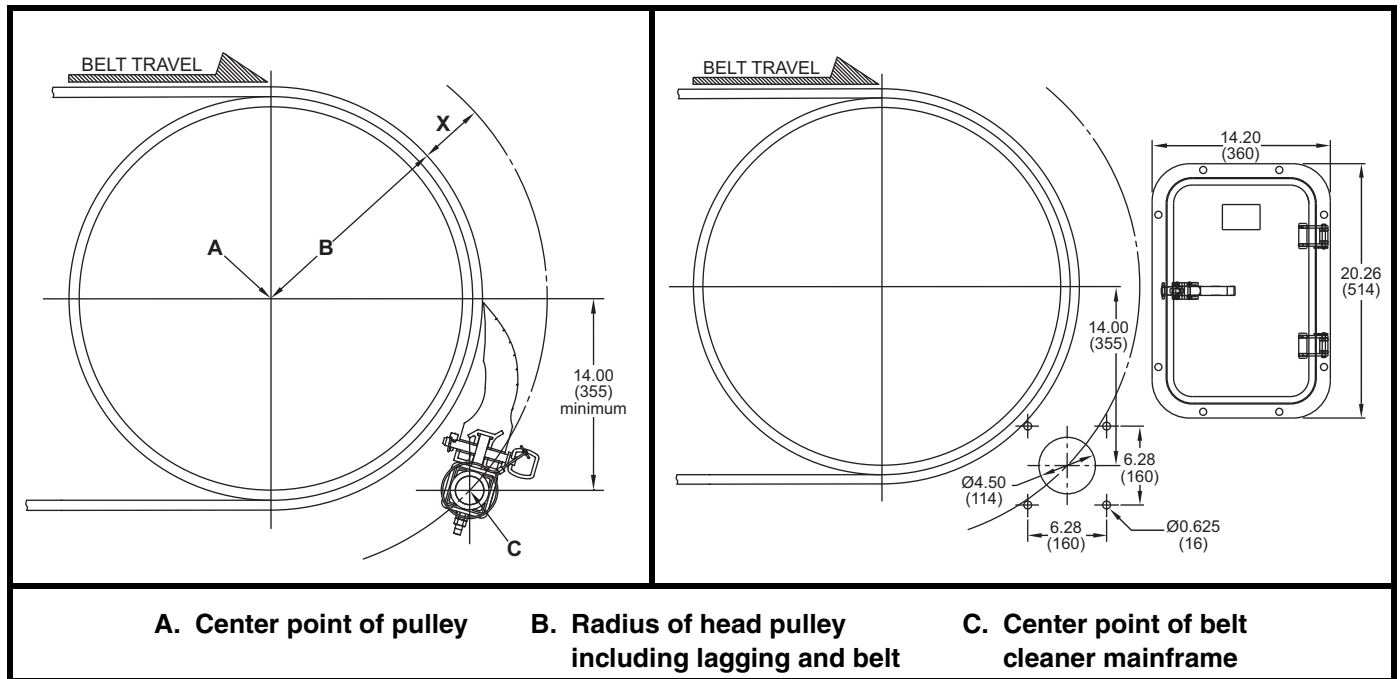

Figure 2. Belt Cleaner Mainframe Location & Chute Wall Cutouts
1. On operator side of chute, find pulley center point (A).
2. Measure radius of head pulley including lagging and belt thickness (B). To this dimension, add dimension X from table.
3. Starting from center point (A), measure the total distance calculated in step 2 (B + X) and draw an arc on chute wall.
4. Measure down from pulley's horizontal centerline the distance shown in Figure 2 and draw a horizontal line parallel to it. Locate center point of belt cleaner mainframe (C) where this line intersects the arc on the chute wall.